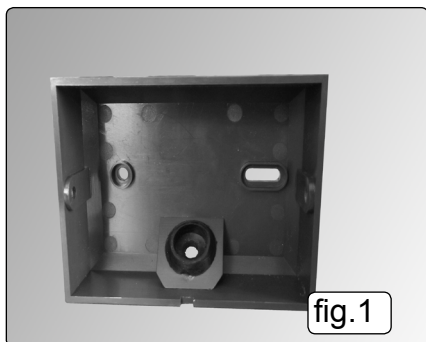

fig.1
- 4.2. Remove the mounting plate from the control box by removing the screw on either side. Mark the area on which the lamp is to be mounted, using the plate as a template (fig.1).